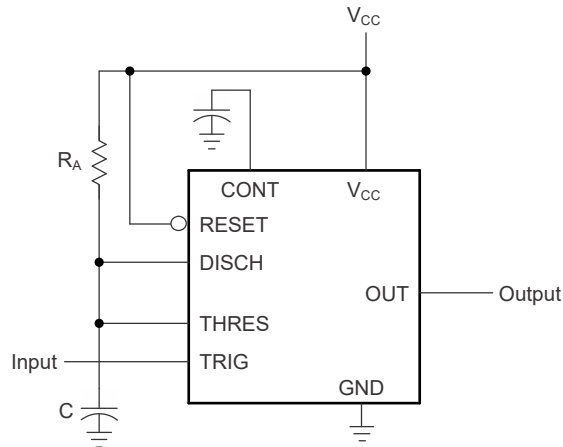

Figure 6-2. Circuit for Monostable Operation
- (1) For conditions shown as MIN or MAX, use the appropriate value specified under *Recommended Operating Conditions*.
- (2) Values specified are for a device in a monostable circuit similar to Figure 6-2, with the following component values: $R_A = 2k\Omega$ to $100k\Omega$, $C = 0.1\mu F$.
For monostable operation, Figure 6-2 shows how to connect any of these timers. If the output is low, application of a negative-going pulse to the trigger (TRIG) sets the flip-flop (\overline{Q} goes low), drives the output high, and turns off Q1. Capacitor C is then charged through R_A until the voltage across the capacitor reaches the threshold voltage of the threshold (THRES) input. If TRIG has returned to a high level, the output of the threshold comparator resets the flip-flop (\overline{Q} goes high), drives the output low, and discharges C through Q1.
Figure 6-5 shows that adding a second resistor, R_B , to the circuit of Figure 6-2 and connecting the trigger input to the threshold input causes the timer to self-trigger and run as a multivibrator. Capacitor C charges through R_A and R_B and then discharges through R_B only. Therefore, the duty cycle is controlled by the values of R_A and R_B .
By adjusting the length of the timing cycle, the basic circuit of Figure 6-2 can be made to operate as a frequency divider. Figure 6-8 shows a divide-by-three circuit that makes use of the fact that retriggering cannot occur during the timing cycle.
See Figure 6-2